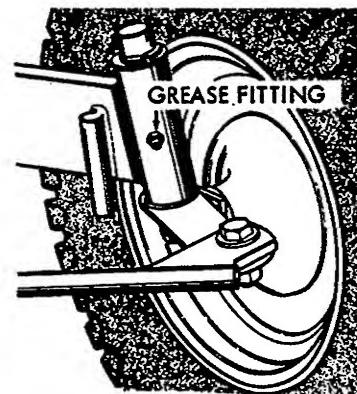

Figure 5
(2) Front Spindles - Figure 5.